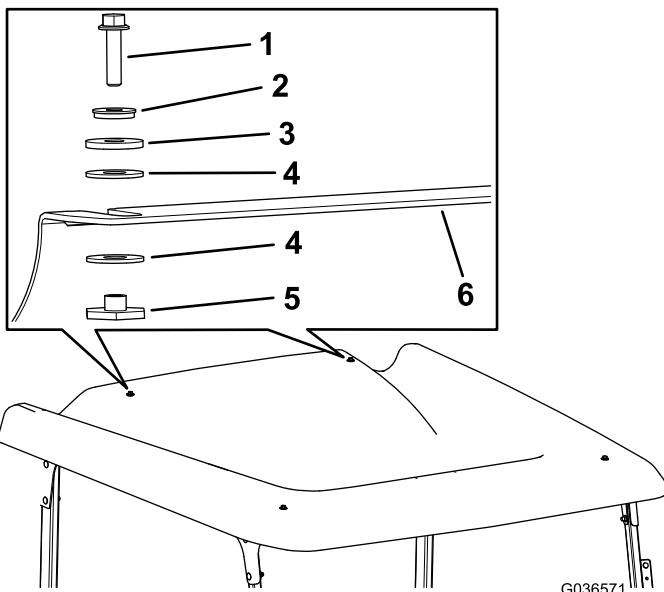

Figure 13
13. Install the sunshade to the rear crosslink using 2 hex-flange bolts (1/4 x 1 inch), 2 sealing washers, 2 friction washers, 4 plastic washers, and 2 flange bushings (Figure 13).